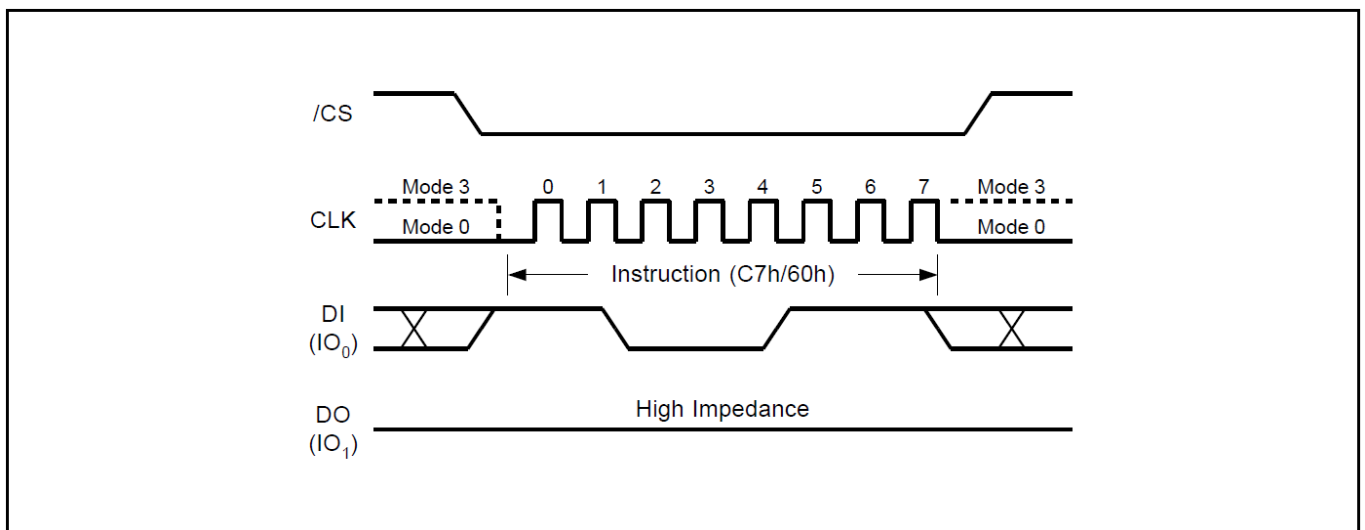

Figure19. Chip Erase Sequence Diagram
The Chip Erase command sequence: CS# goes low → sending Chip Erase command → CS# goes high. The command sequence is shown in Figure19. CS# must be driven high after the eighth bit of the command code has been latched in; otherwise the Chip Erase command is not executed. As soon as CS# is driven high, the self-timed Chip Erase cycle (whose duration is  $t_{CE}$ ) is initiated. While the Chip Erase cycle is in progress, the Status Register may be read to check the value of the Write in Progress (BUSY) bit. The Write in Progress (BUSY) bit is 1 during the self-timed Chip Erase cycle, and is 0 when it is completed. At some unspecified time before the cycle is completed, the Write Enable Latch (WEL) bit is reset. The Chip Erase (CE) command is executed, if the Block Protect (BP2, BP1, and BP0) bits are 0 and CMP=0 or the Block Protect (BP2, BP1, and BP0) bits are 1 and CMP=1.